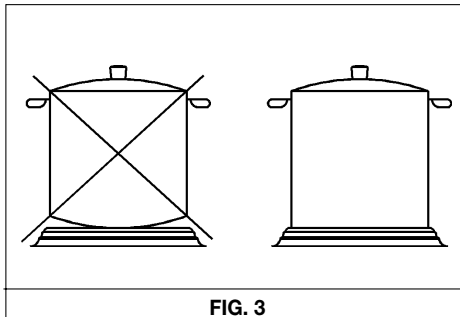

FIG. 3
- To always use pans with flat and very thick bottoms (see fig. 3).